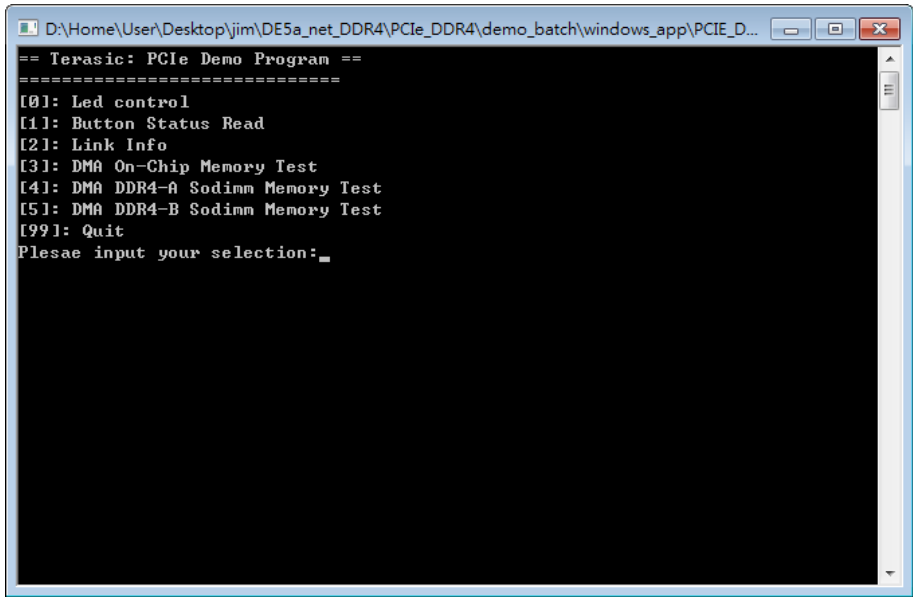

Figure 7-16 Screenshot of Program Menu
7. Goto windows_app folder, execute PCIE_DDR4.exe. A menu will appear as shown in **Figure 7-16**.